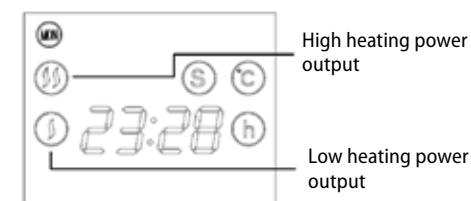

Fig. 3
Press the (HEAT) button to regulate high and low heating power output, when the low power output is selected, the display will be showing (L). When the high power output is selected, the display will be showing (H), see Fig. 3.